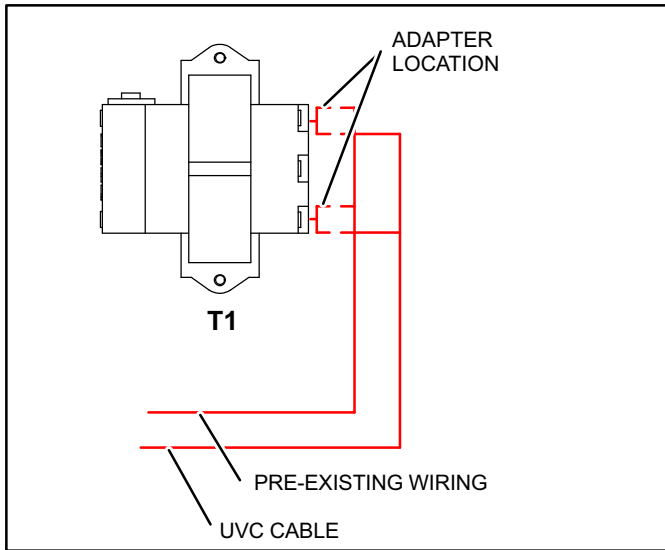

Figure 5. Connect cable to transformer T1 (230 Volt units)
- A** For all 230V rooftop models, connect the black and white conductors of the UVC cable to transformer T1 using (2) quick-connect adapters included in the kit (see figure 5).